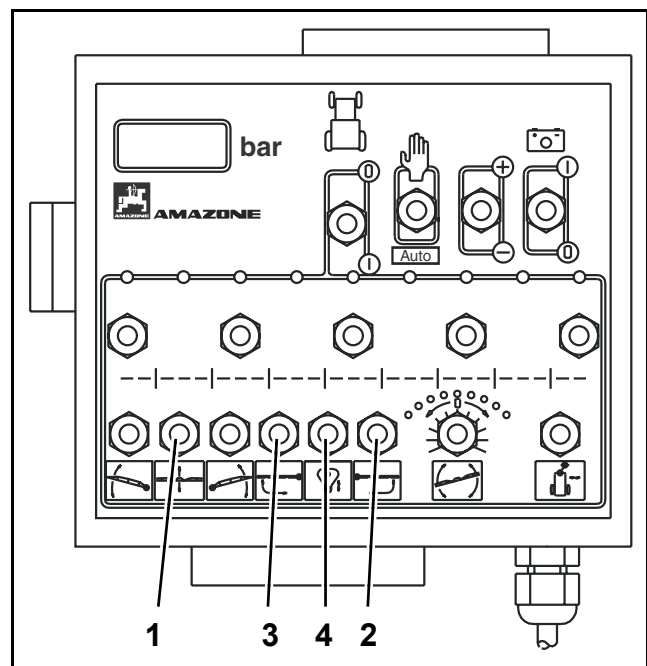

Fig. 80
- Lift boom to a middle height by pressing switch (Fig. 80/1) of the hydraulic height adjustment.
- Keep the key (Fig. 80/2) in position "fold out" until the individual segments of the left hand boom have been unfolded completely. The relevant hydraulic rams lock the boom into the operational position.
- Keep the key (Fig. 80/3) in position "fold out" until the individual segments of the left hand boom have been unfolded completely. The relevant hydraulic rams lock the boom into the operational position.
- Via the key (Fig. 80/4) unlock the swing compensation from transport position.
- Set the spraying height of the boom via the key (Fig. 80/1) for the hydraulic height adjustment.